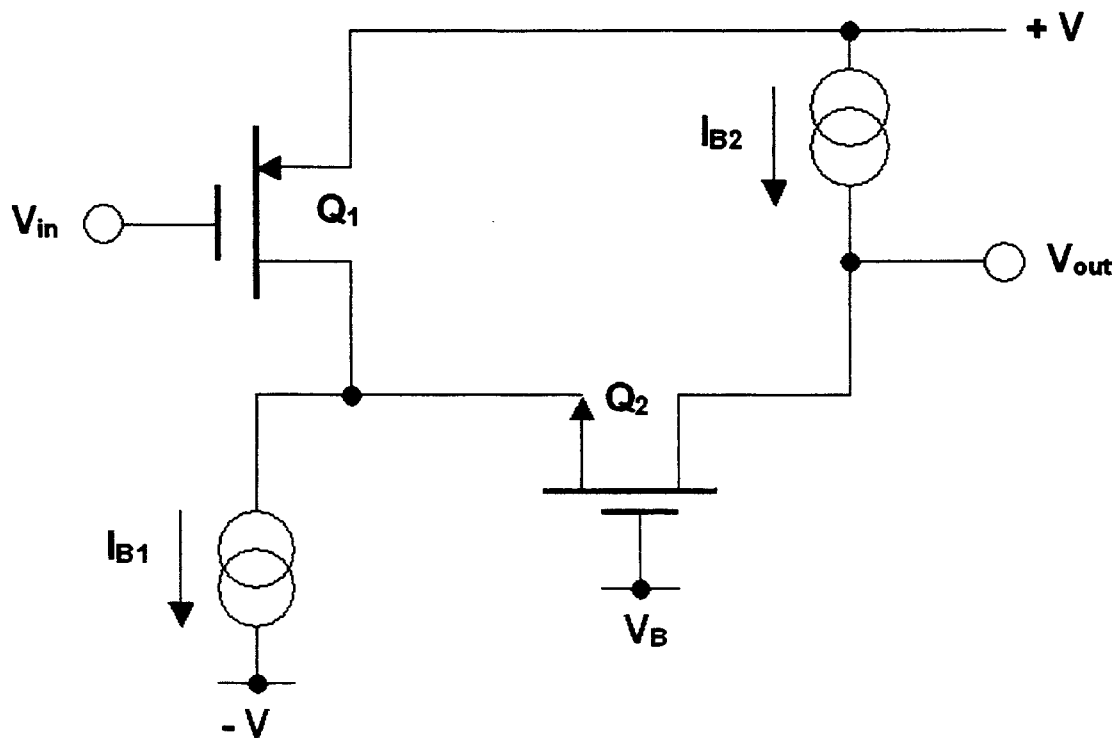

Figure 4.1
4. (a) Figure 4.1 shows a folded cascode connection. What is the main advantage of this design over the more classical cascode connection? Show using a simple sketch how the architecture of Figure 4.1 can be used to form the basis of a single stage folded cascode operational amplifier (op-amp). Give an expression for the approximate small signal voltage gain of the op-amp. [10]